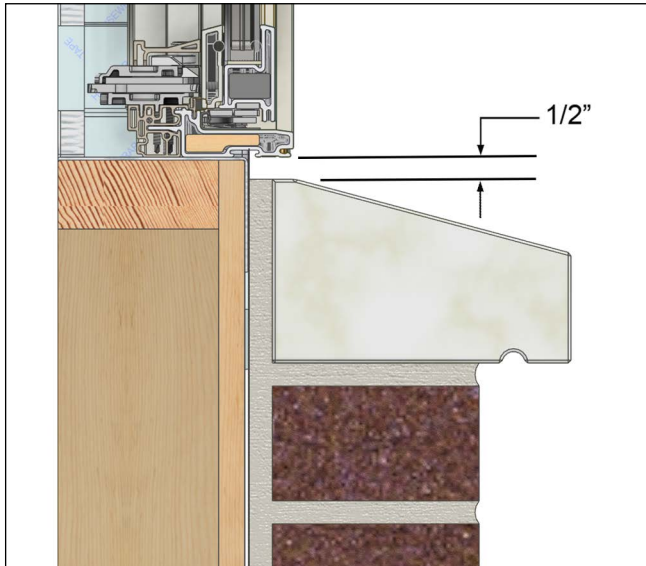

Figure 29 Avoid brick bind, maintain 1/2" gap
3. On standard wood frame construction with brick veneer, make sure there is at least 1/2" (13) between the bottom of the window sill (or eventual placement of the window) and the top row of brick to avoid "brick bind". See Figure 29.